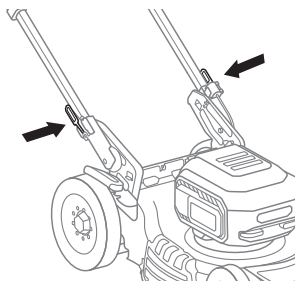

Fig. 13B
4. Press and hold both folding handle levers to release the handle (Fig. 13B).